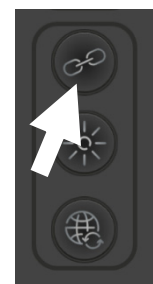

Figure 23. Link Fixture
1. Keeping the CL1 selected in the *UNLINKED DEVICES* list, tap on the *Link Fixture* button (see Figure 23) on the right-hand side of the screen.